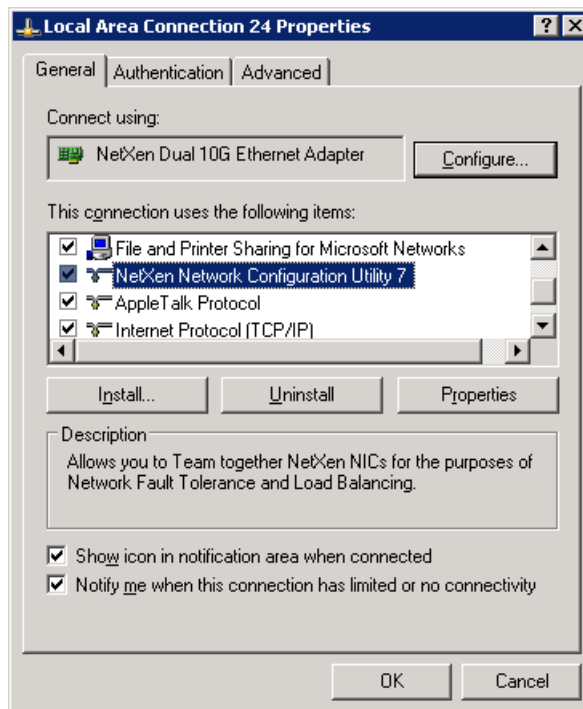

Figure 5-13 General tab window
- Under the General tab (Figure 5-13), the NetXen Network Configuration Utility for teaming is now added to the list of Protocols.